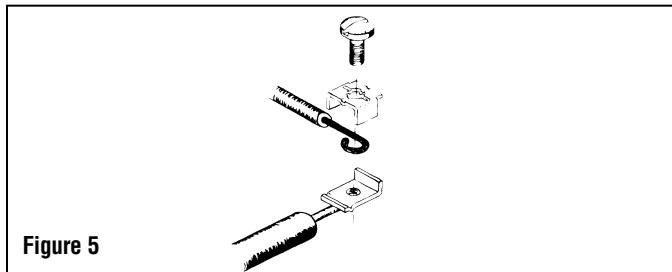

Figure 5
7. Assemble terminal, screw and wire as shown in Figure 5.